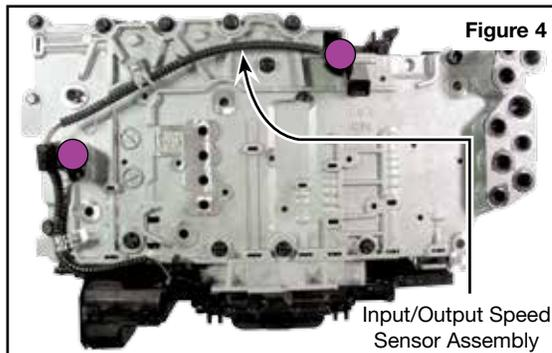

Figure 4
- b. Remove two bolts (8mm head) and input/output speed sensor assembly (**Figure 4**).